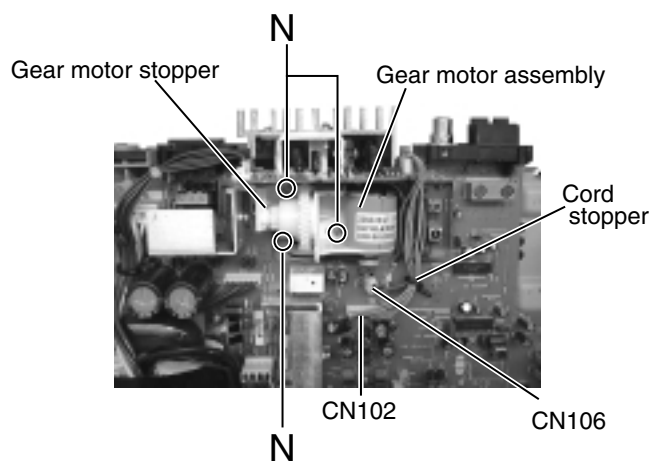

Fig.22
■ Removing the gear motor assembly (See Fig.22 to 24)